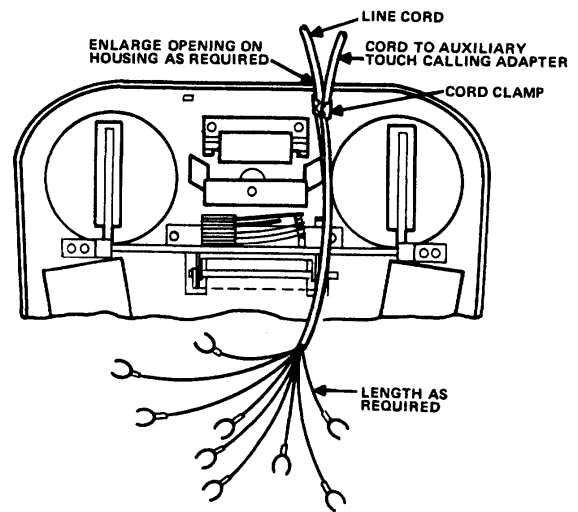

Figure 17. Routing and Securing Cord from Auxiliary Touch Calling Adapter to Type 880B Speakerphone.
- (a) Route and secure the adapter's cord to a Type 880B speakerphone as shown in Figure 17.